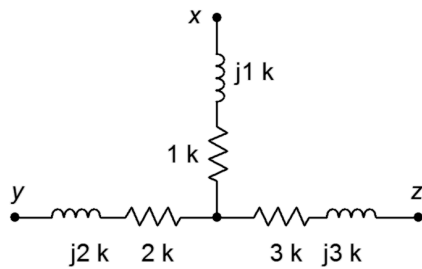

Figure 5.31
57. Determine the equivalent delta (pi) network for the circuit of Figure 5.31.